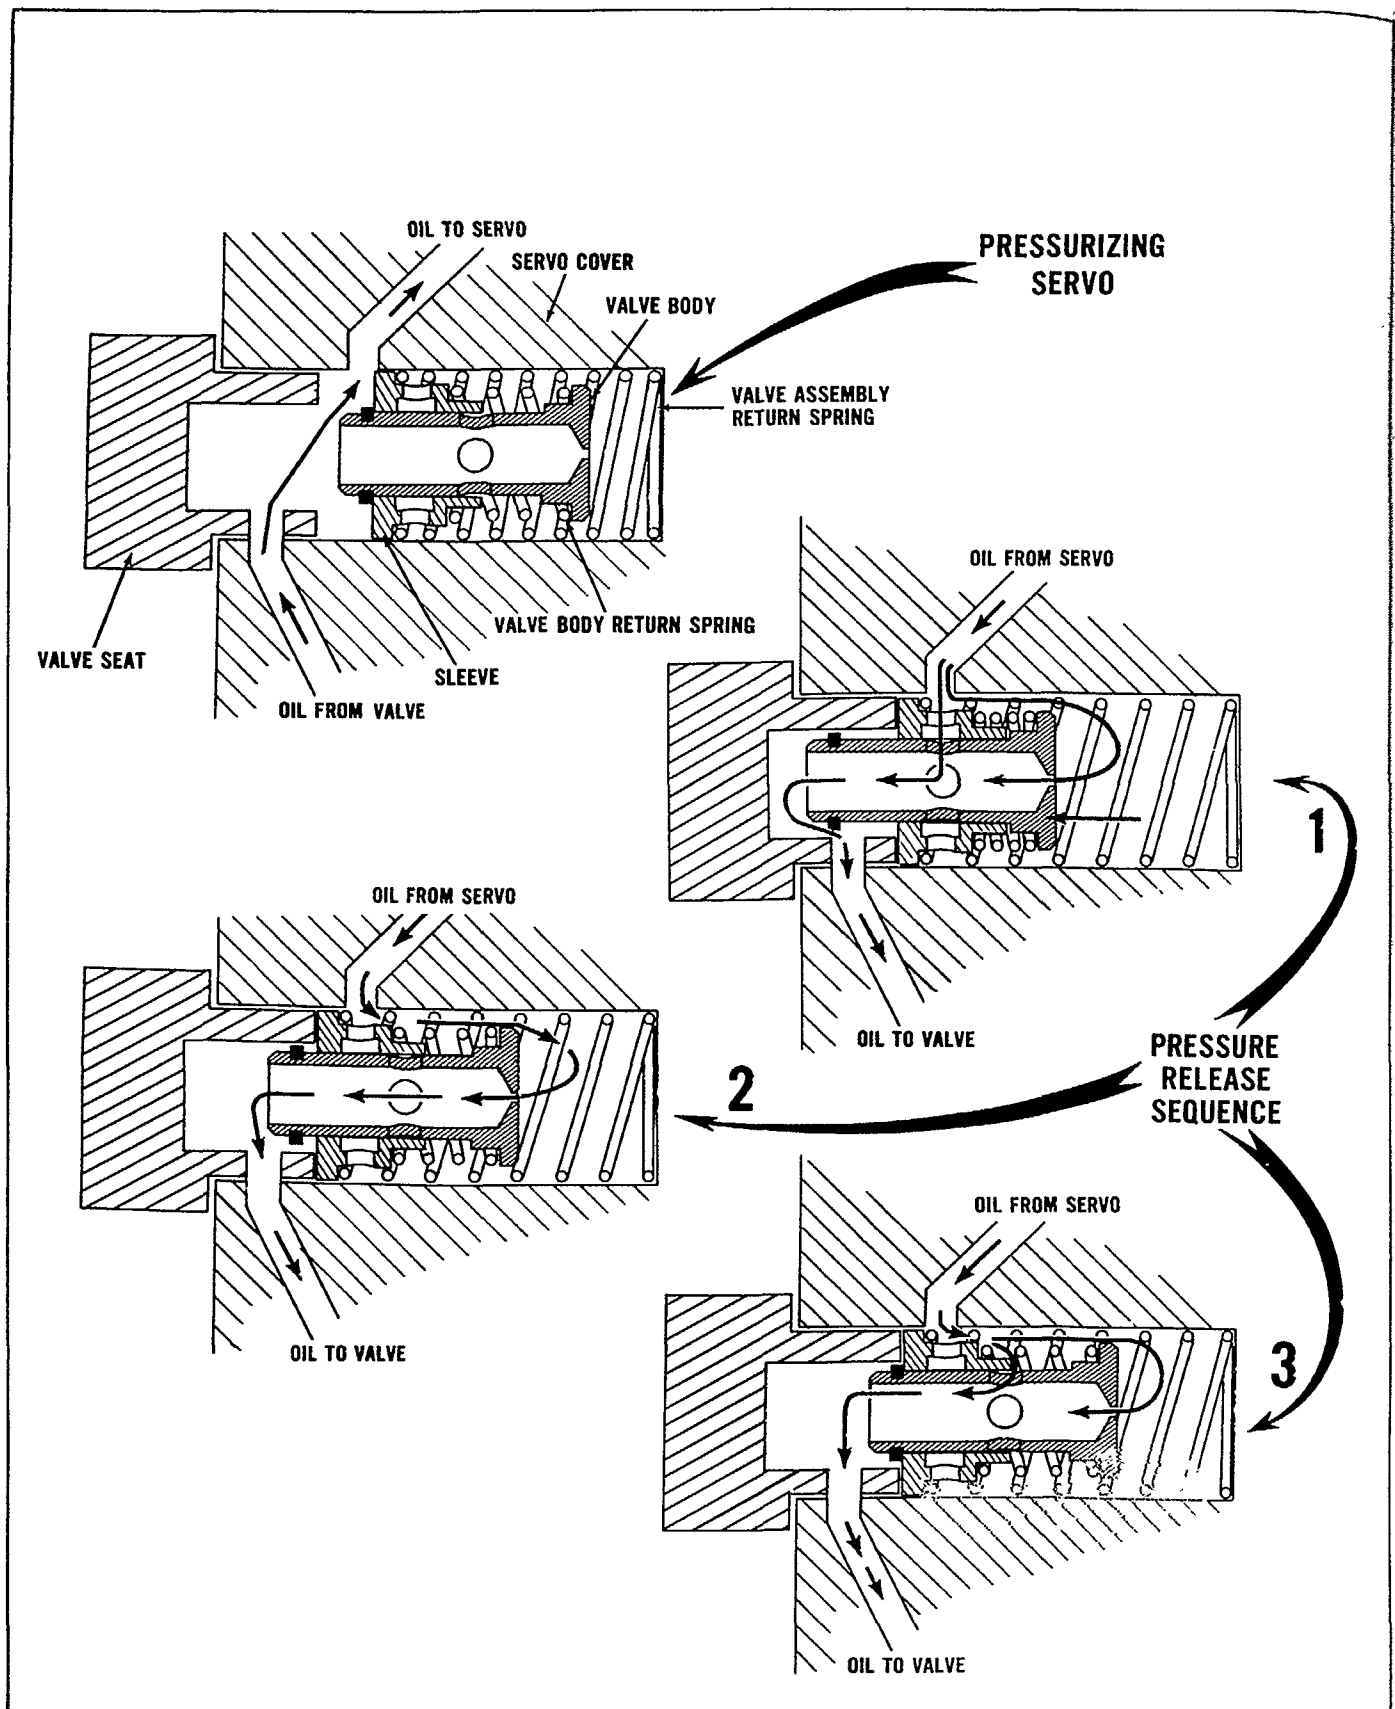

Figure 17
Two timing valve assemblies are incorporated in the servo 2 and 3 cover assembly, Figure 17, to provide, primarily, for gradual application of bands 2 and 3. This function promotes smooth shifting characteristics during the 4-5 and 5-4 shift cycles when one of the bands is releasing and the other band is applying. Each valve assembly is located in its respective servo circuit in a bore of the servo cover. The assembly consists of a valve, valve spring, sleeve, and retaining snap ring. A valve return spring holds the valve assembly against a pressed-in valve seat. The valve assembly is free to move in the bore and is held in the closed position against the seat by the return spring. The retaining snap ring limits the travel of the valve with respect to the sleeve. The valve spring is positioned between the sleeve and the valve shoulder holding the sleeve against the snap ring.
When the servo is pressurized to release the band, the flow of oil enters the valve chamber through the center of the seat and moves the valve assembly off the seat, compressing the return spring. The hydraulic oil is then free to flow to the servo to release the band. This sequence is shown in Figure 17.
spring. The radial ports and the inside annular groove of the sleeve are then indexed with the radial ports of the valve permitting the return oil to pass through the sleeve and valve ports to the central passage of the assembly and on to sump. This operation is shown in Figure 17.
2. As the pressure is reduced in the servo, the valve spring returns the valve blocking the radial ports, shutting off the flow of return oil. At this point, the oil then flows through the orifice in the end of the valve, to the control valve and then to sump. This is illustrated in Figure 17.
3. As the oil pressure continues to drop, the valve spring further extends the valve, with respect to the sleeve, until the radial ports of the valve are opened through which the remainder of the oil is passed to sump as shown in Figure 17.